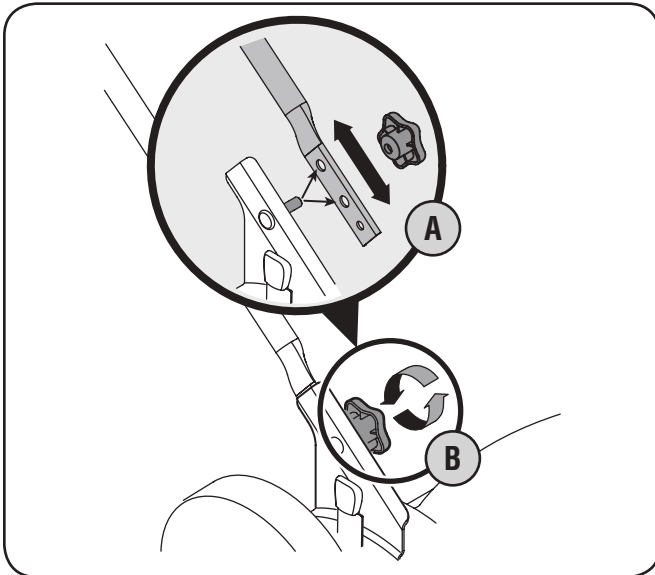

Figure 3-3
- If satisfied with height of handle, tighten wing nuts at the ends of the lower handle shown in Fig. 3-3. For convenience of operating, you may adjust the handle height by removing the wing nuts and removing the lower handle.
- Position each handle bracket stud into the top hole in the lower handle. See Fig. 3-3 inset.